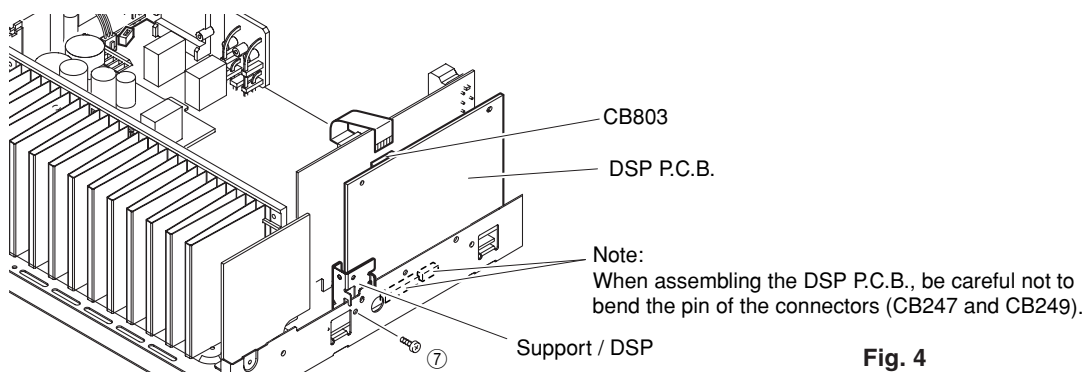

Fig. 4
- Remove 1 screw (⑦). (Fig. 4)
- Remove CB803. (Fig. 4)
- Remove the DSP P.C.B. with the Support/DSP. (Fig. 4)
- c. Remove 1 screw (⑦). (Fig. 4)